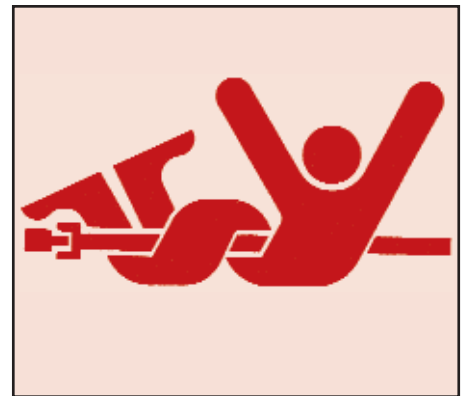

Figure 3 - Never stand or allow anyone else to stand between the tractor and the implement unless the engine is turned off.
**Always keep your Power Take-Off (PTO) properly shielded.** Never stand or allow anyone else to stand between the tractor and the implement unless the engine is turned off, the PTO shaft has stopped turning, and the parking brake is engaged. Make a habit of walking around your tractor and PTO-driven implement — never over, through, or between the tractor and implement. The PTO rotates with enough speed and strength to kill you. (See Figure 3.)